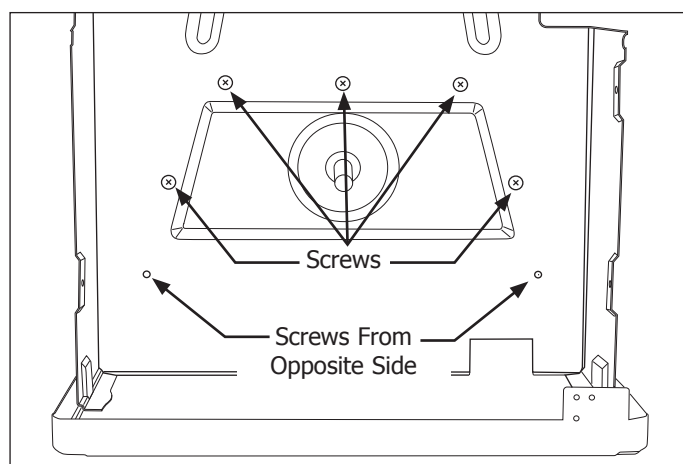

Figure 4-85.
15. From both sides of partition, extract the screws securing the condenser fan motor mounting bracket to partition. Remove partition from base tray. (See Figure 4-85)